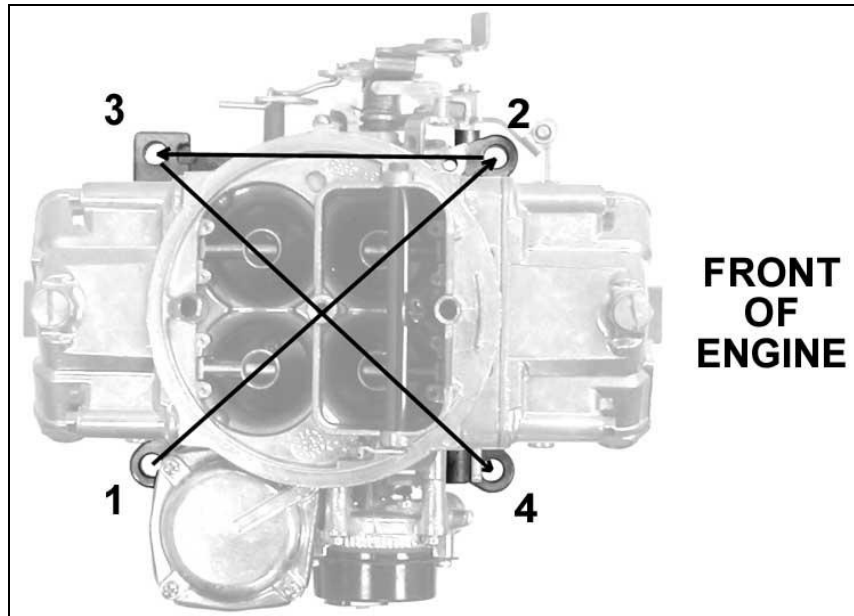

Figure 5—Carburetor hold-down nut torque sequence
3. Place the carburetor on top of the flange gasket on the manifold. Install the hold down nuts and snug down progressively in a “crisscross” pattern (60-80 in./lbs.), as shown in Figure 5.